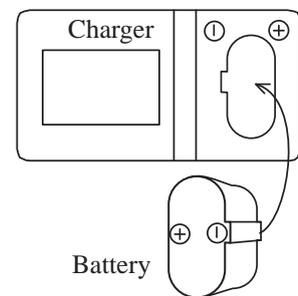

Fig. 1A
(1) How to find a broken fuse
- b. If the above phenomenon appears after forcing the battery to insert with wrong direction as illustrated in Fig. 1A, fuse can be damaged.